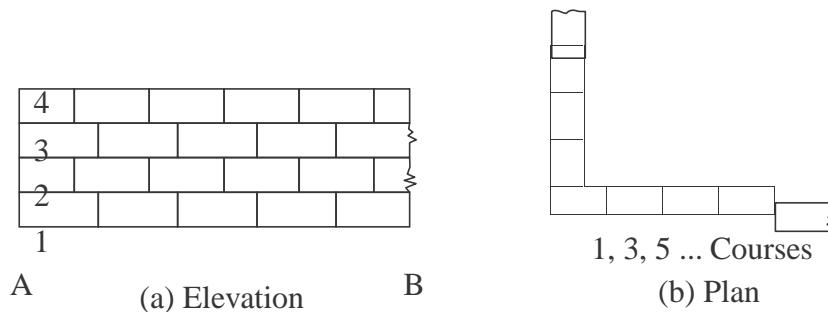

Fig. 2.6.1 Stretcher
**1. Stretcher Bond:** A stretcher is the longer face of the brick as seen in the elevation. In the brick of size  $190 \text{ mm} \times 90 \text{ mm} \times 90 \text{ mm}$ ,  $190 \text{ mm} \times 90 \text{ mm}$  face is the stretcher. In stretcher bond masonry all the bricks are arranged in stretcher courses as shown in Fig. 2.6.1. However care should be taken to break vertical joints. This type of construction is useful for the construction half brick thick partition wall.